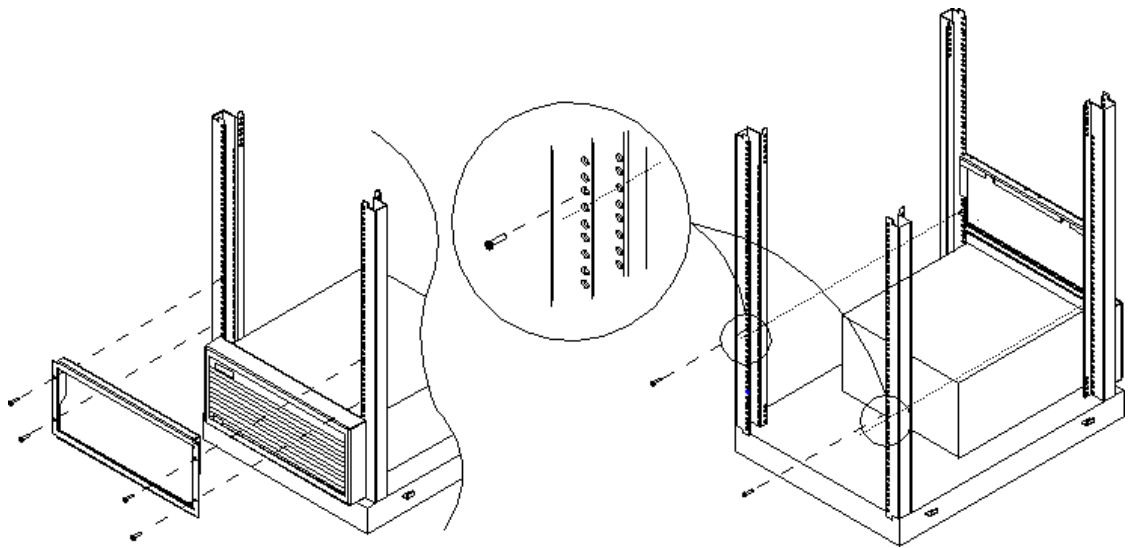

FIGURE 1-3 Screw Installation
1. Facing the front of the rack and using the *Rackmount Placement Matrix* (part number: 802-6945-xx), hold the bezel in the specified position and install and tighten four 10-32 screws (FIGURE 1-3).
2. Loosely thread two 10-32 screws into the back rail of the rack. These back bottom screws should be one hole above the front bottom screws (FIGURE 1-3).